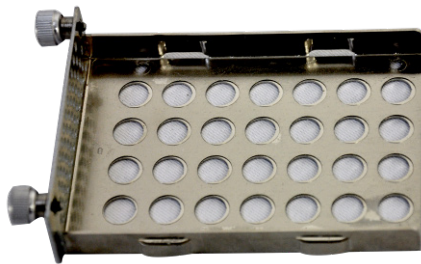

Figure 3-2: HDD Bracket
- Step 2:** Put the HDD bracket on a flat surface (Figure 3-2).